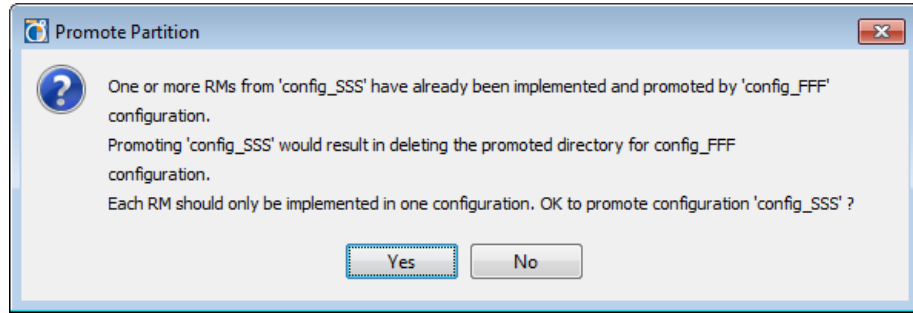

Figure 4-33: Resetting Out-of-Date Configurations
- Other Configurations could be affected by promoting or resetting a Configuration. The PlanAhead software displays an alert, shown in Figure 4-33, page 77, if this occurs.